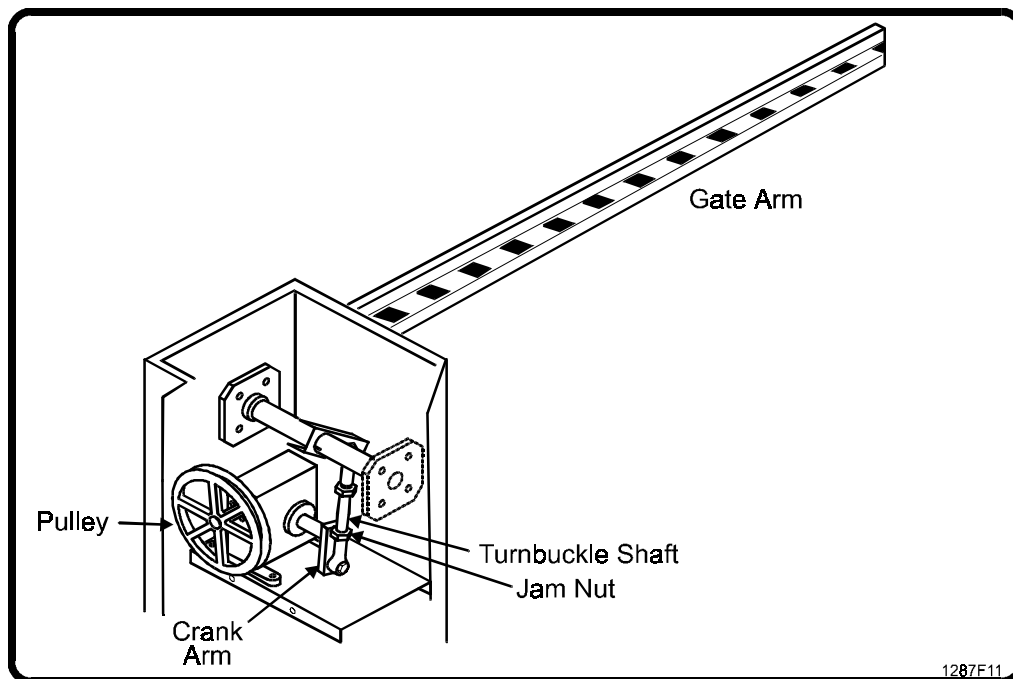

Figure 7. Gate Arm Adjustment.
2. Rotate the gearbox pulley by hand until the crank arm is parallel with the turnbuckle shaft at its lowest point of travel (see Figure 7).